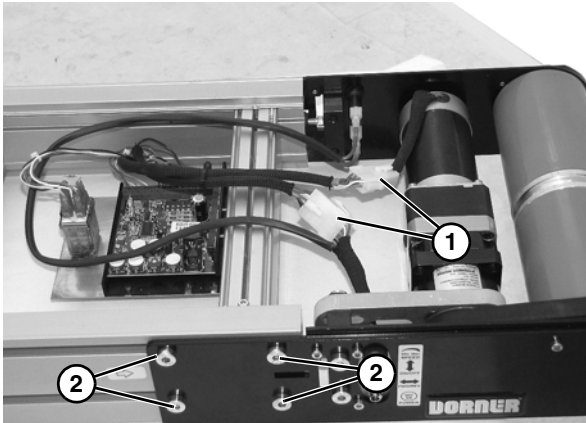

Figure 54
3. Disconnect two wiring harness connectors (**Figure 54, item 1**).
4. Loosen four hex head screws (**Figure 54, item 2**) on each side of conveyor.